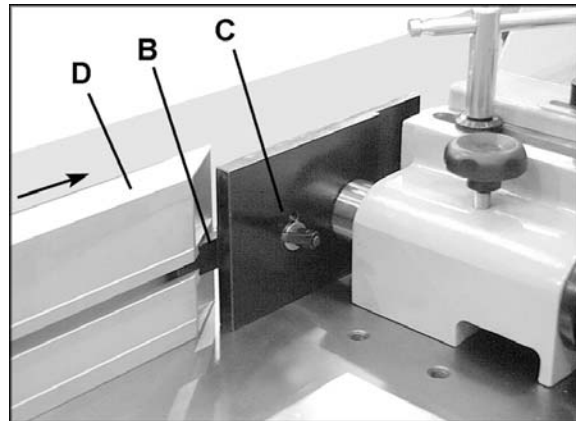

Figure 8
2. Fasten bar (B, Figure 8) to the front of the fence half using the locking lever (C, Figure 8) and washer. Slide an aluminum fence (D, Figure 8) onto the bar. (NOTE: Right hand and left hand fences are slightly different.) Repeat for the other side.
NOTE: Locking levers (C, Figure 8) are spring loaded and can be repositioned by pulling out the handle and rotating it on the nut.
1. To laterally adjust the aluminum fence plates, loosen the two fence locking levers (refer to C, Figure 8), slide the fence plates to the required positions and tighten locking levers.